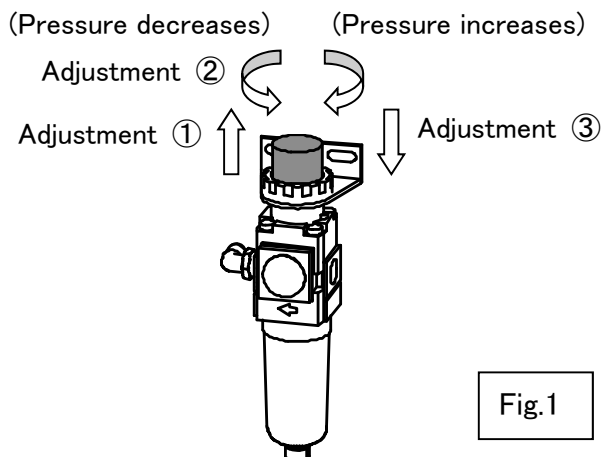

Fig.1
Use mark stitches of fig.1.
1. Air Pressure: Fig.1
※There are various regulators. (See Fig.1)